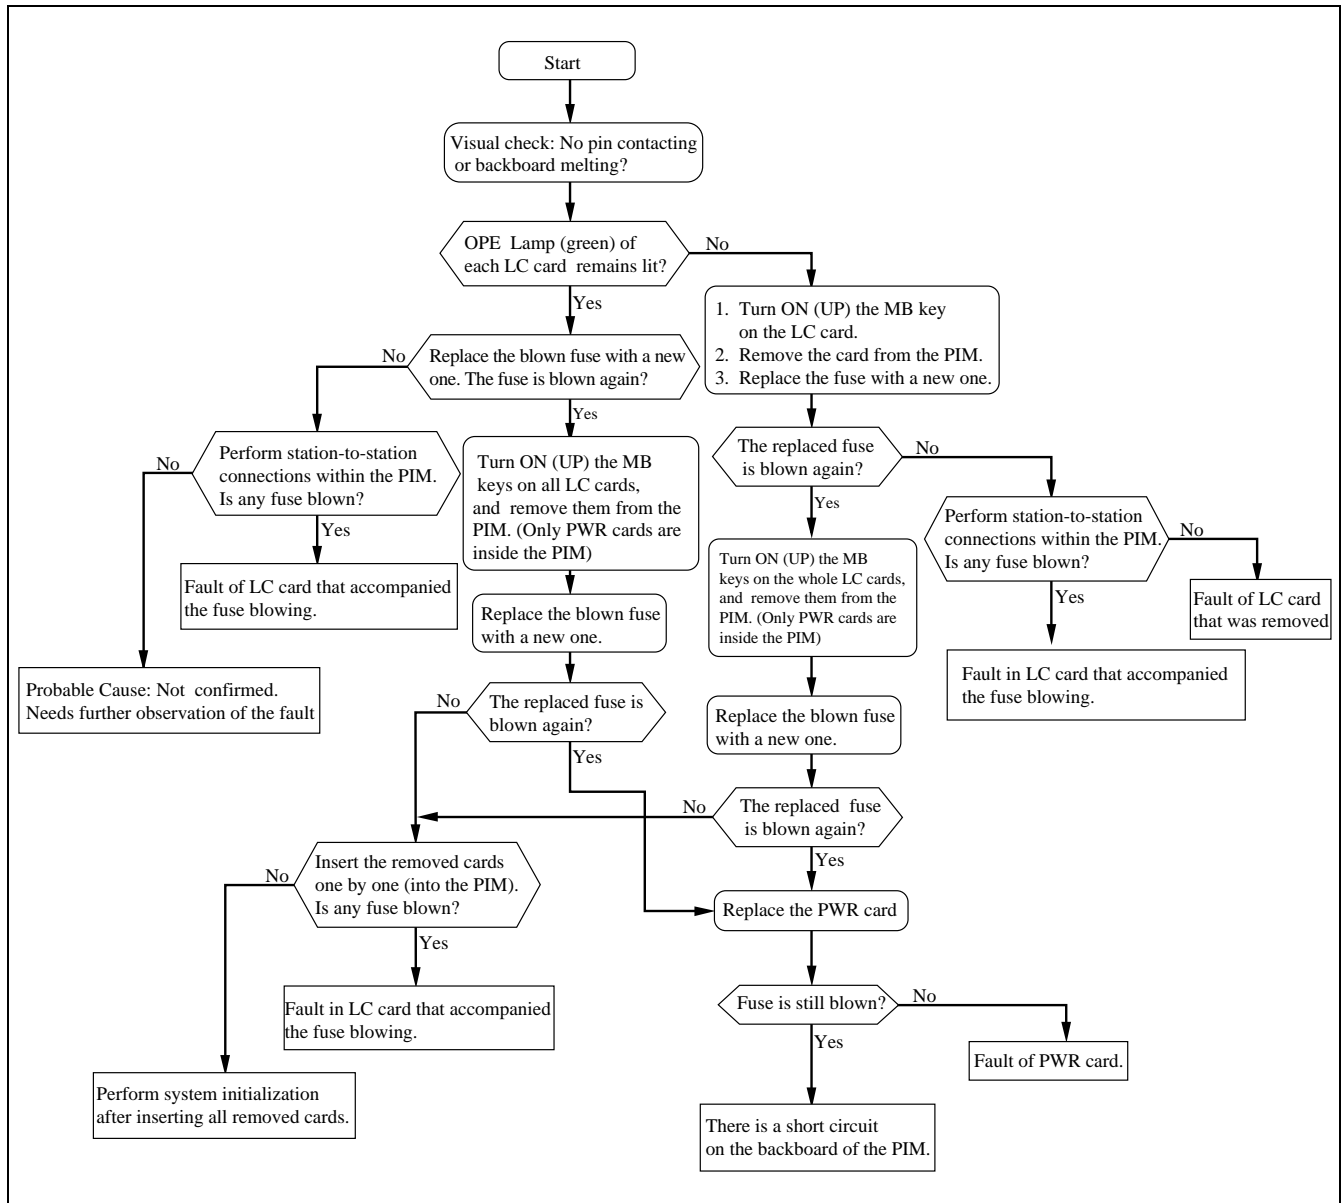
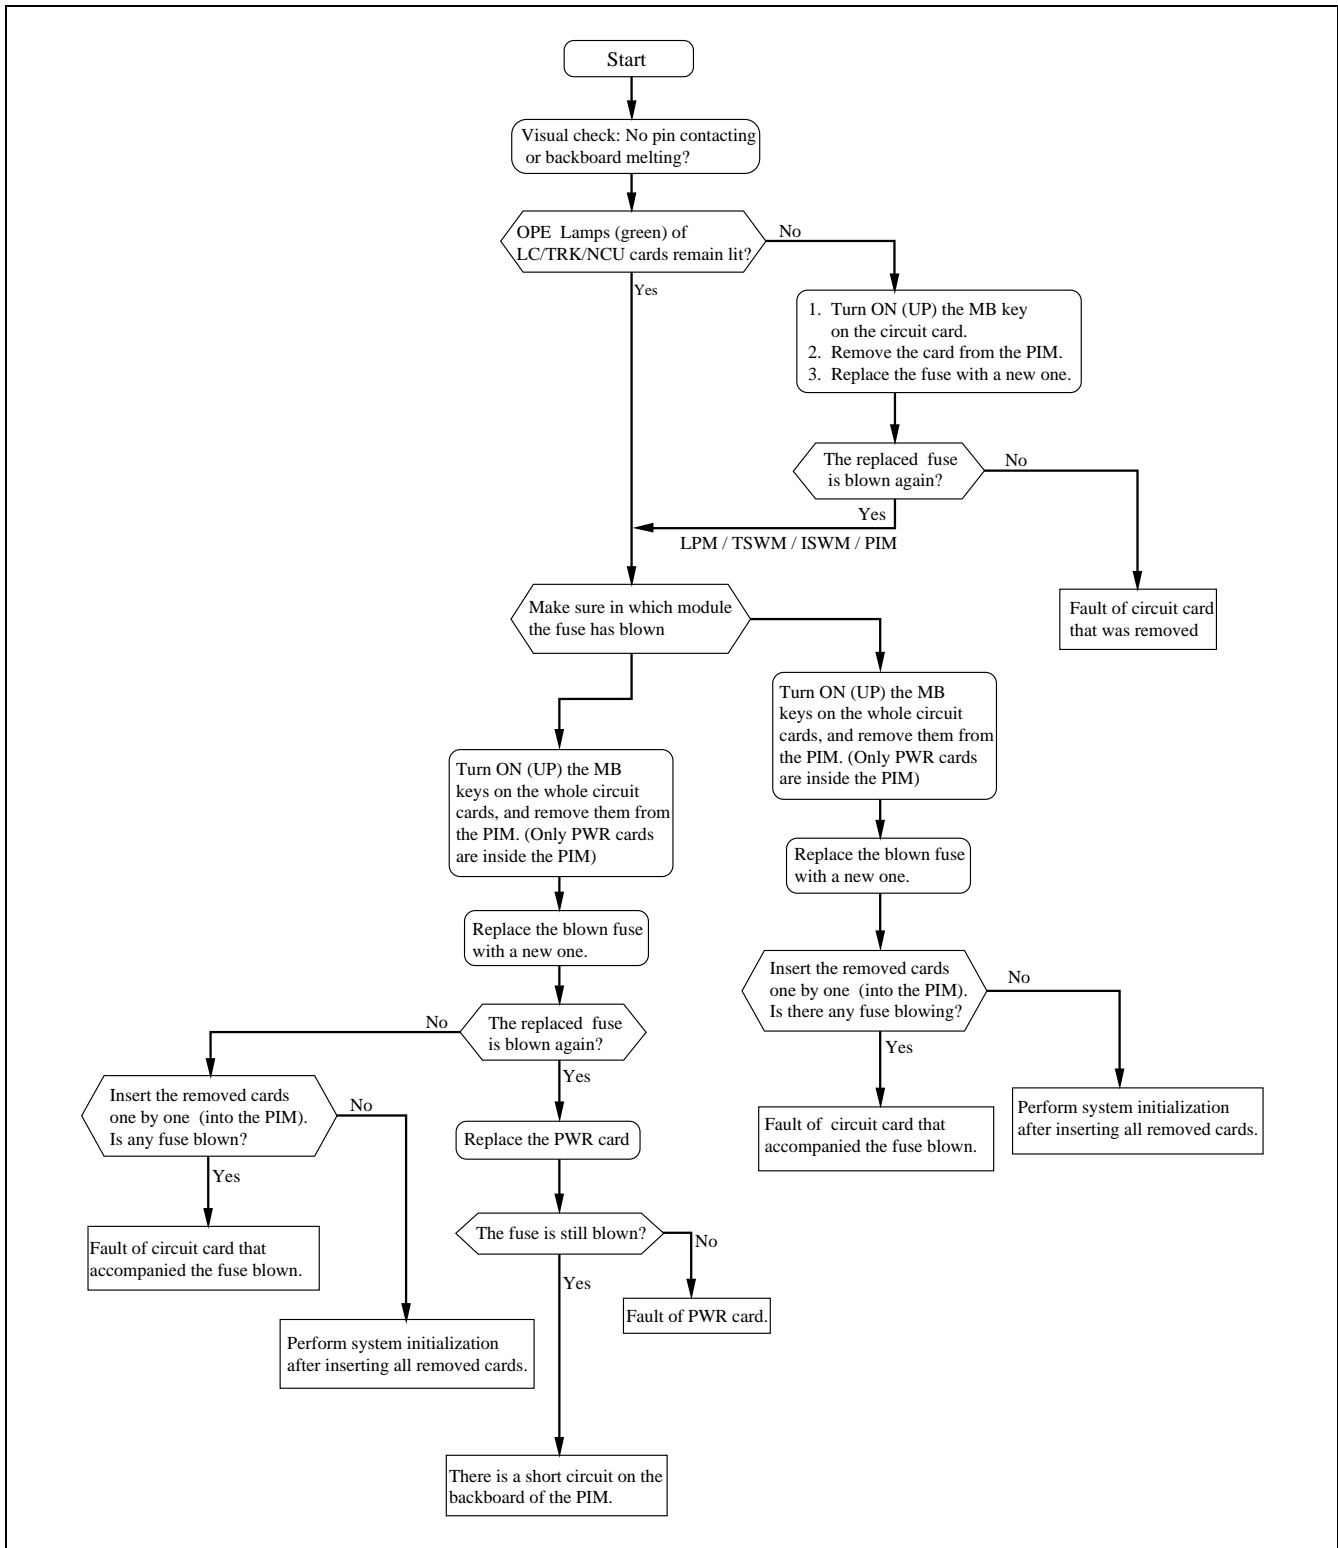

Figure 4-30 RGU Fuse Blown Fault Flowchart
Figure 4-31 DC -48V Fuse Blown Fault Flowchart
- (3) Determine the cause of the blown fault, referring to Figure 4-30 (case of RGU fuse) or Figure 4-31 (DC-48V fuse.)
Perform the procedure in Figure 4-30 to confirm the cause of the RGU fuse blown fault.
Perform the procedure in Figure 4-31 to confirm the cause of the DC-48V fuse blown fault.